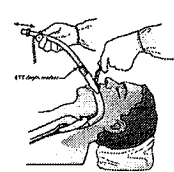

Figure 3
2. Position the longitudinal line of ETT to face the LMA Fastrach™ handle. Gently insert the ETT into the device airway tube. ETT should not pass beyond the 15 cm transverse depth marker. Ensure that the tip of the ETT does not enter the mask aperture (Fig.3).